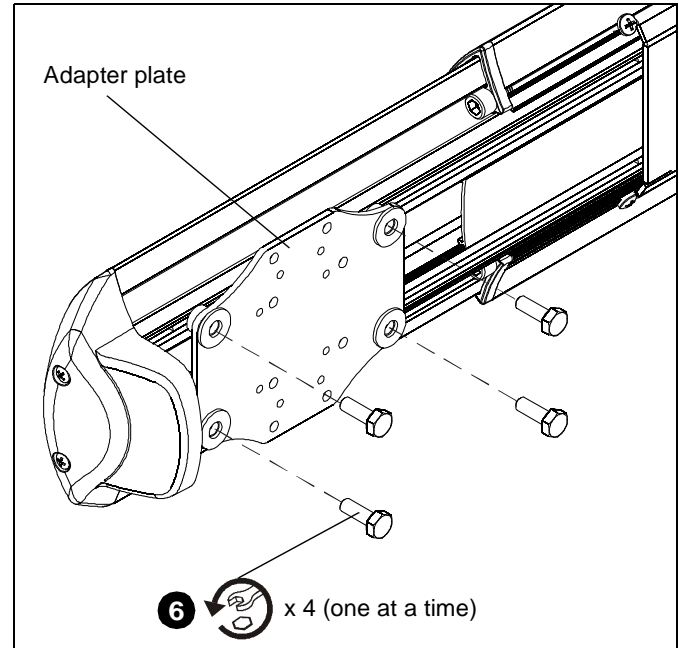

Figure 31
6. Remove one of four bolts from adapter plate. (See Figure 31)